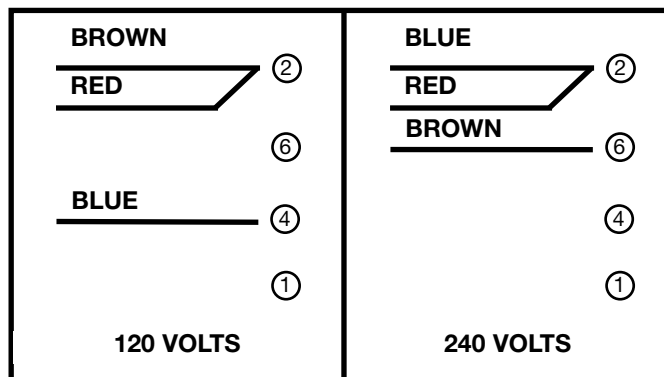

Fig. 6
- Remove the brown wire from terminal 2. Connect it to terminal 6 (Fig. 6).
- Remove the blue wire from terminal 4. Connect it to terminal 2 (Fig. 6). **NOTE:** The wires have spade-type quick connectors. No wire nuts are required.